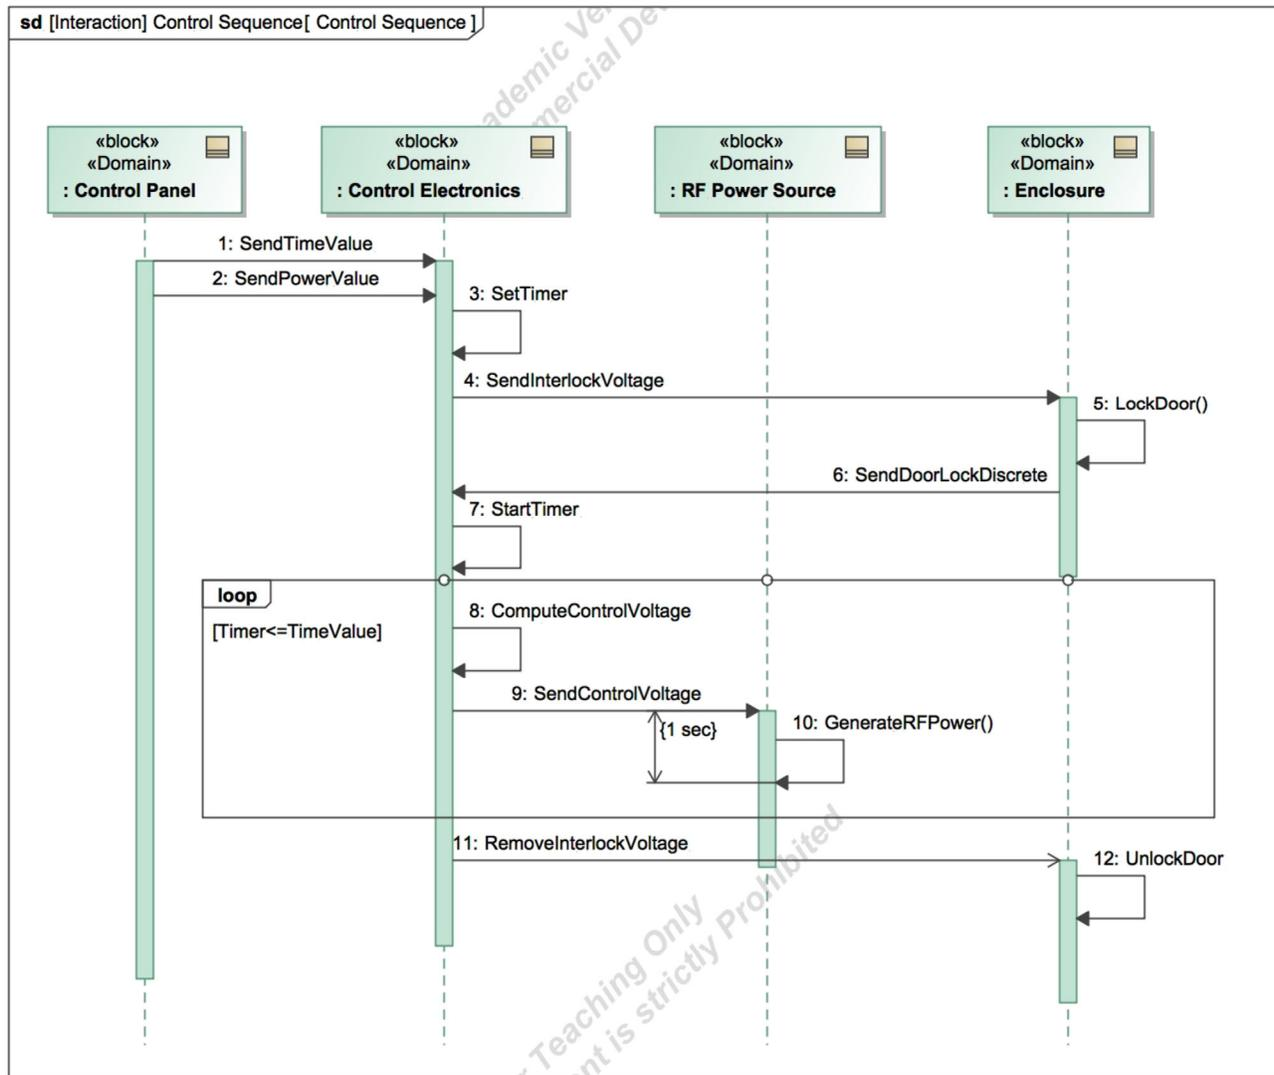

Figure 33. Sequence Diagram
- B. Fig. 33 shows a basic SD from the microwave oven model, showing the interaction among Domains in performing the basic cooking function. The steps to create this diagram are: